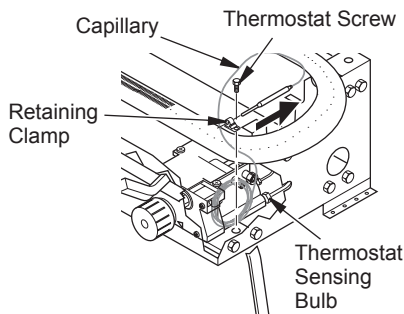

Figure 39 - Removing Thermostat Sensing Bulb
2. With 1/4" hex driver or socket, loosen the thermostat screw. Carefully slide the thermostat sensing bulb out of the retaining clamp (see Figure 39).